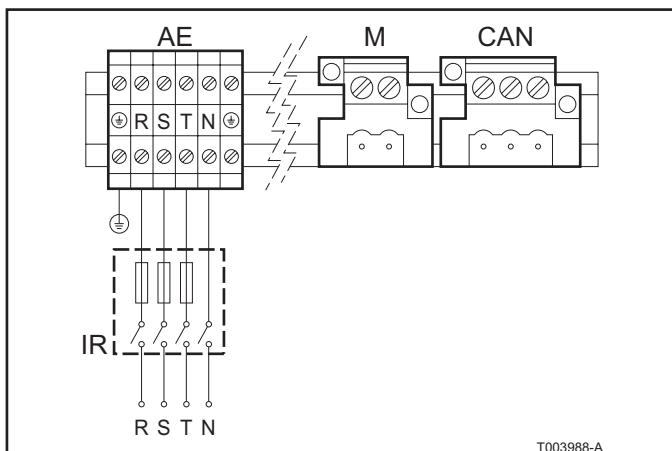
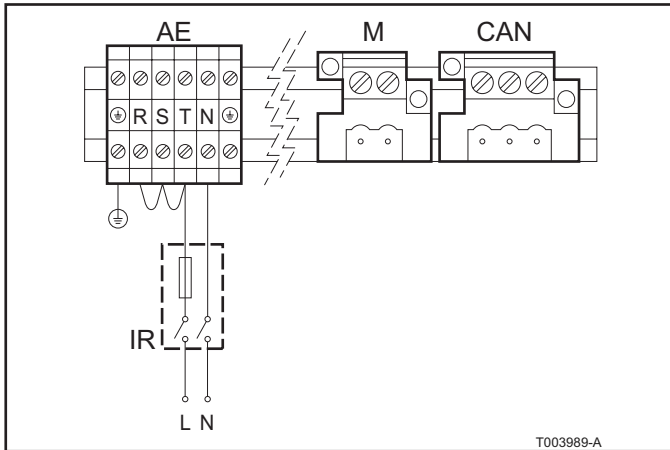

Fig. 22 Wiring diagram for the three-phase 400 V 3 N - 50 Hz system
Fig. 23 Wiring diagram for the 1-phase 230 V 1 N - 50 Hz systems
- Find the AE connector (with terminals R, S, T and N) and connect the 400 V 3 N - 50 HZ or 230 V 1 N - 50 Hz power supply as shown in Fig. 22 and Fig. 23 respectively.